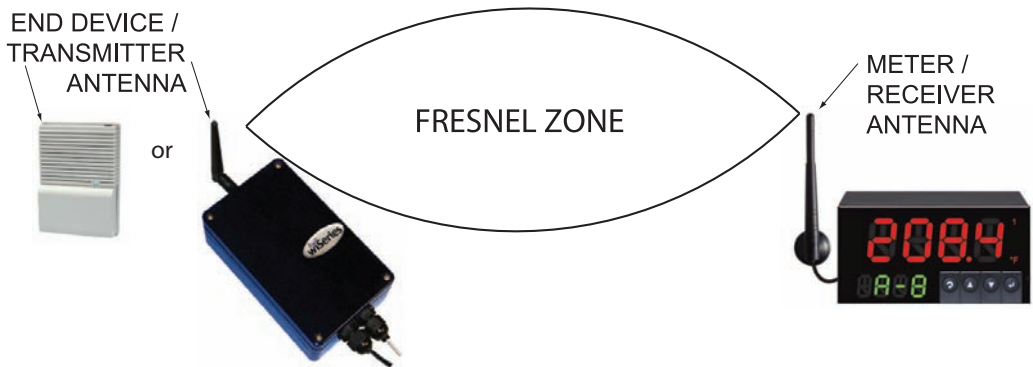

Figure 5.2 Fresnel Zone
4. Maintain a line-of-sight between antennas and keep Fresnel zone free of obstruction. See **Figure 5.2**.